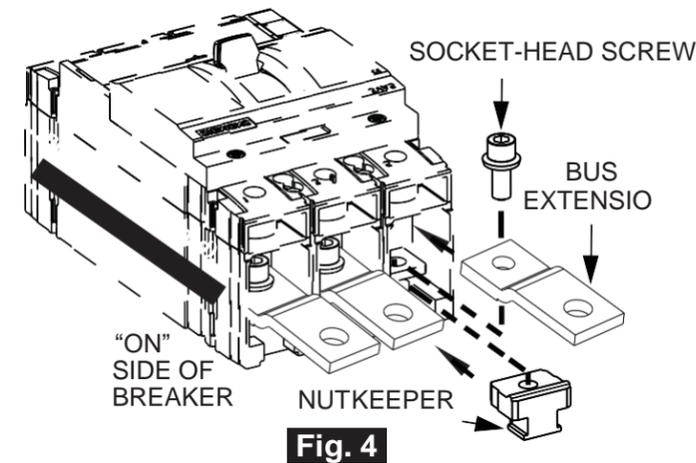

Fig. 4
9. Prepare the breaker (purchased separately), using the Hardware Kit (Item 9) and the included instructions. **NOTE:** Hardware Kit includes two sets of Nut Keepers; one set clicks into place on the 3VA52 breakers, the other clicks into 3VA62 breakers. Attach Bus Extensions with included screws per instructions. (Refer to Fig. 4)